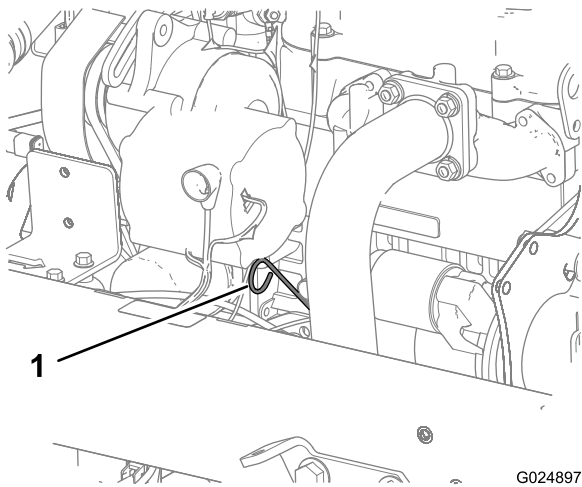

Figure 11
2. Remove the dipstick and wipe it with a clean rag. Insert the dipstick into the tube and make sure it is seated fully. Remove the dipstick and check the level of the oil (Figure 11).